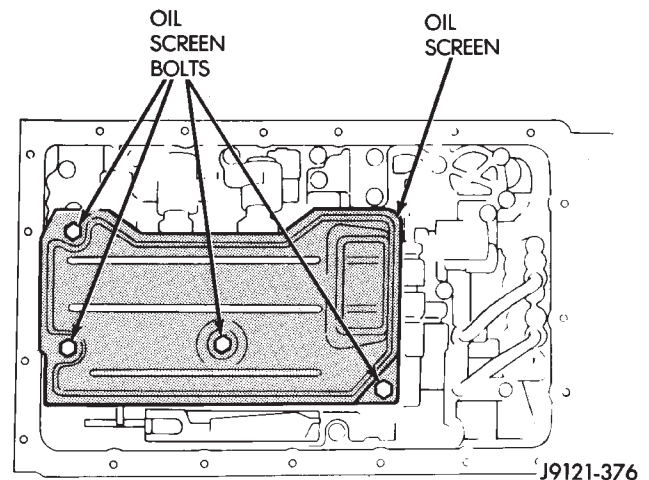

Fig. 7 Oil Screen Removal/Installation
(3) Remove oil screen bolts and remove screen (Fig. 7) and gasket. Discard the gasket.